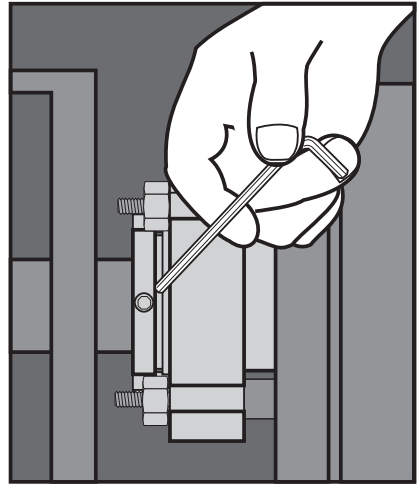

Figure 5
2.7 With the impeller, shaft, coupling, and bearings in their final operating positions, **tighten the P-50 set screws.** See Figure 5.